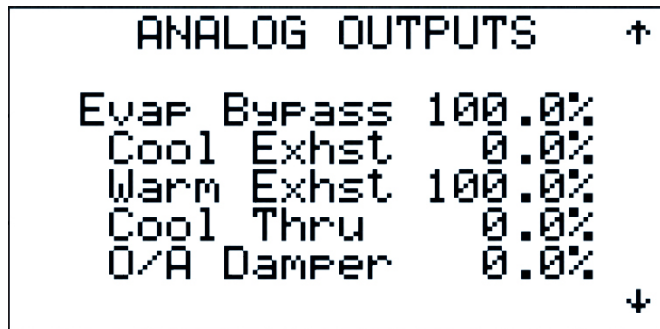

Figure 94
2.3.3.3.4 Analog Outputs (Figures 94 - 97)